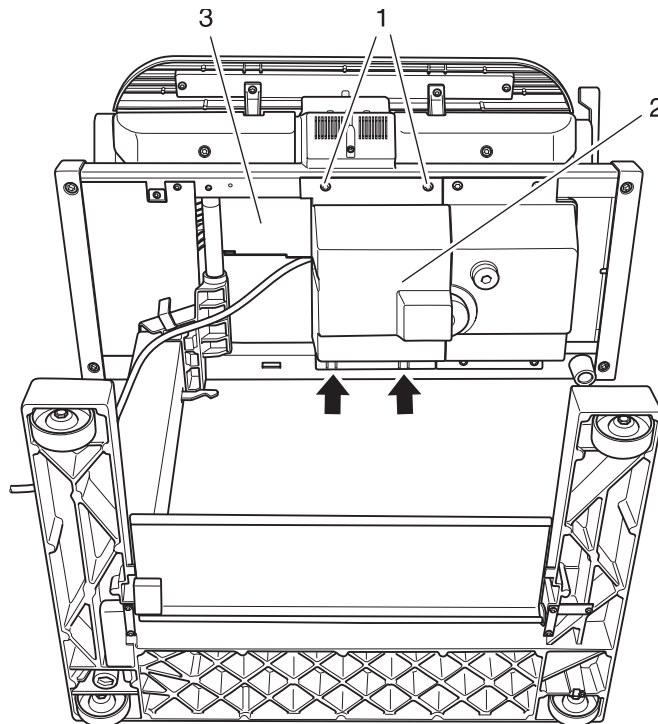

Fig. 23
- Lay the steam ironer face-up on the floor (fig. 23).